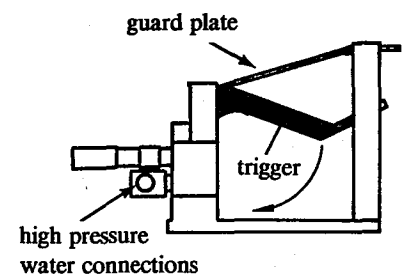

Figure 26. Foot Valve
13.15 Foot-controlled Valves - Control valve designed so that the operator can activate it using a foot (Figure 26). This allows the operator to use both hands to hold and move the lance and/or nozzle assembly.